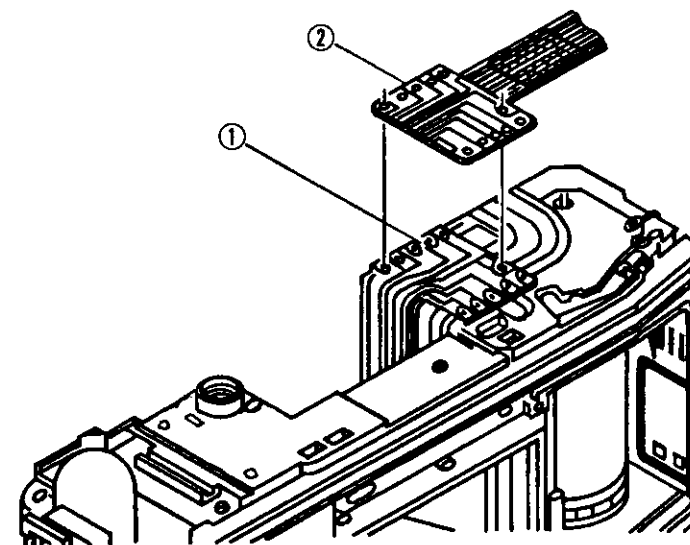
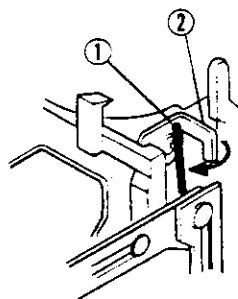

Fig. 9
Fig. 10
- (8) Detach nine soldered portions on the AE FPC (No. 1) and the P FPC (No. 2) shown in Fig. 9.
- (9) Take off the Screw (P. 30 No. 1) on the W. printed board ass'y (P. 30 No. 2).
- (10) Remove the Spring (No. 1) on the Shutter base plate (No. 2) shown in Fig. 10.